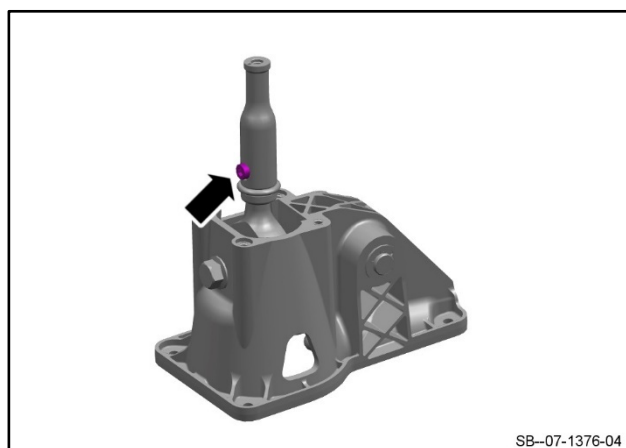

Figure 3
4. Remove the screw that attaches the extension for the gear selector (refer to Figure 3).